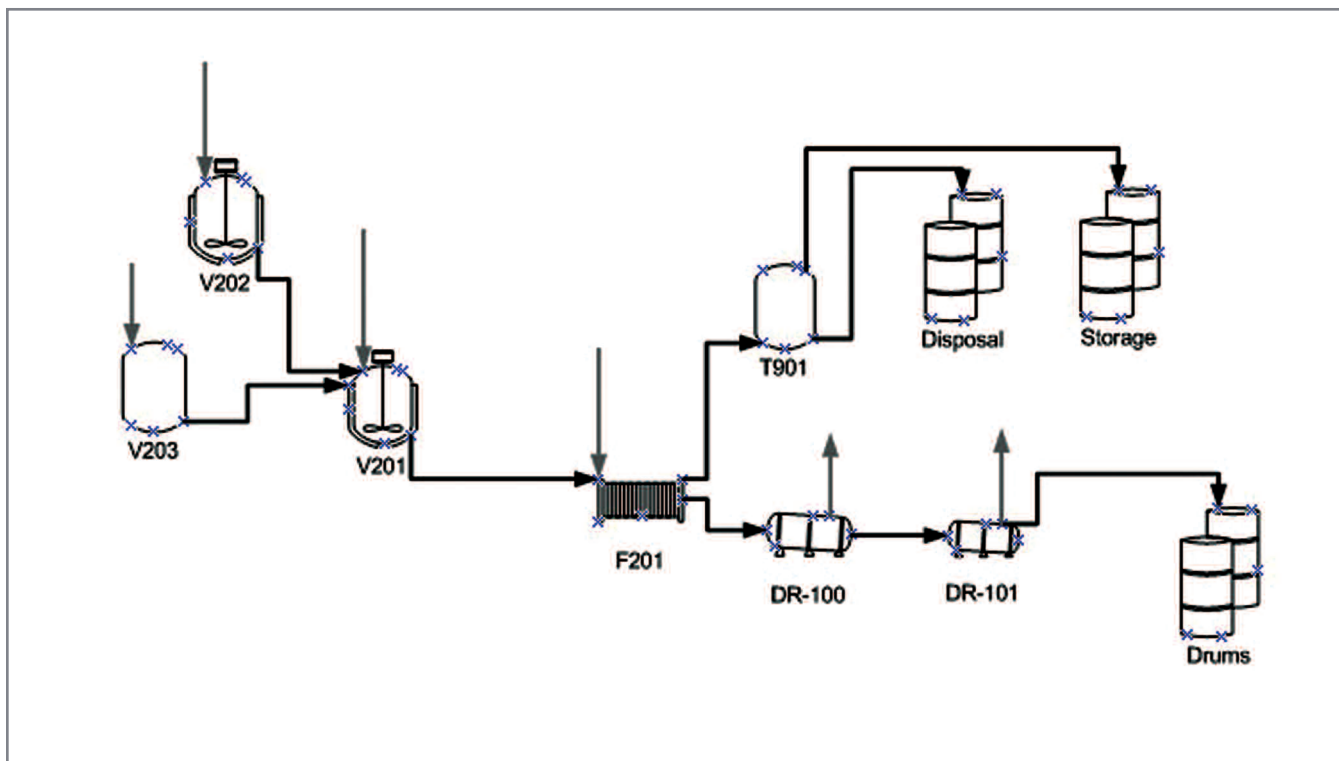

Figure 3: Flowsheet view of a step
- *Figure 3* - An equipment-centered or plant layout view for process fit and logistics studies